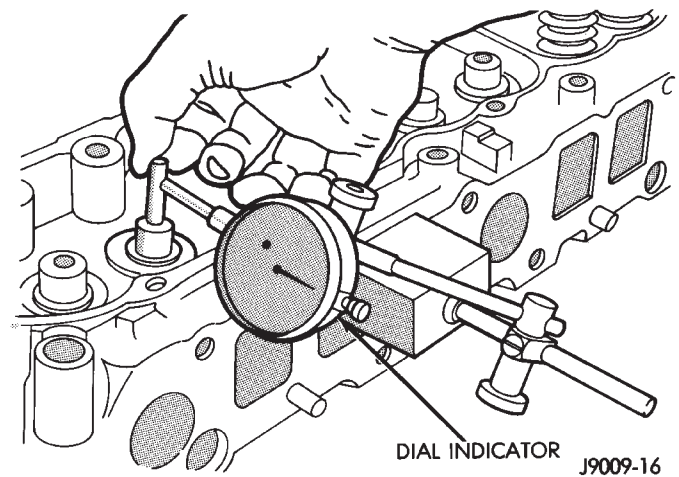

Fig. 11 Measurement of Lateral Movement Of Valve Stem
(1) Use a dial indicator to measure the lateral movement of the valve stem (stem-to-guide clearance). This must be done with the valve installed in its guide and just off the valve seat (Fig. 11).
(2) Correct clearance is 0.025-0.0762 mm (0.001-0.003 inch). If indicated movement exceeds the specification ream the valve guide to accommodate an oversize valve stem.